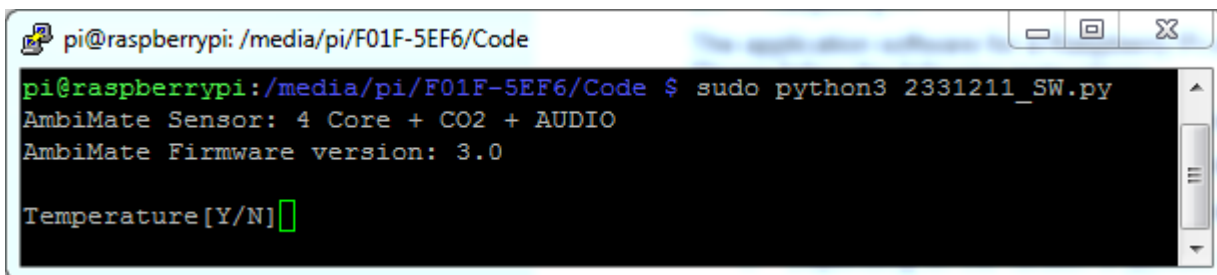

Figure 6: Initial data
6. Data will be visible as shown in Figure 6.